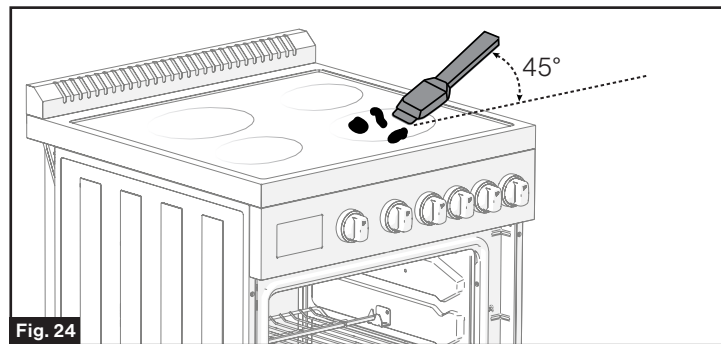

Fig. 24
2. Use a single-edge razor blade scraper at approximately 45° against the glass surface and scrape the soil. It will be necessary to apply pressure to the razor scraper in order to remove the residue. (Fig. 24)